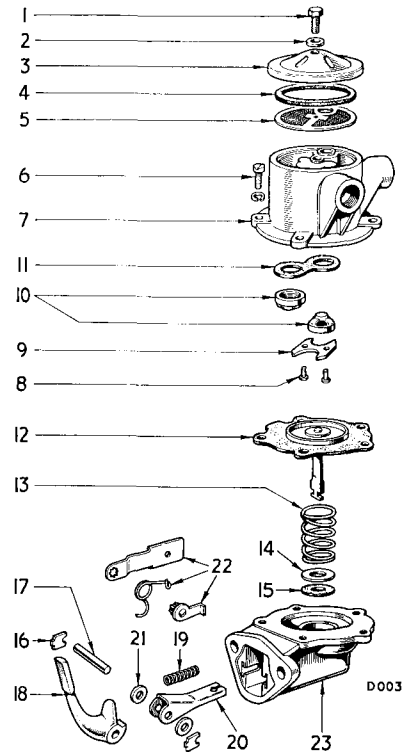

Fig. 1. Exploded view of Spitfire and Herald 1200, 12/50 fuel pump
- (b) Dismantle in the sequence given on Figs. 1 and 2. Re-assemble by reversing the sequence.
- (c) To remove the diaphragm assembly (12) first turn it through 90° in an anti-clockwise direction and lift it out of engagement with operating fork (20) (Fig. 1) or (21) (Fig. 2).
* The valves (10) are identical, but on fitting them to the upper body ensure that the inlet valve is pointing towards the diaphragm and the outlet valve points away from the diaphragm, as shown on the illustrations.